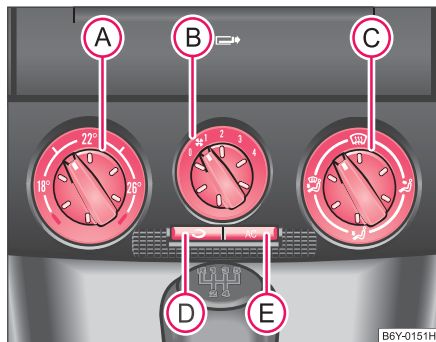
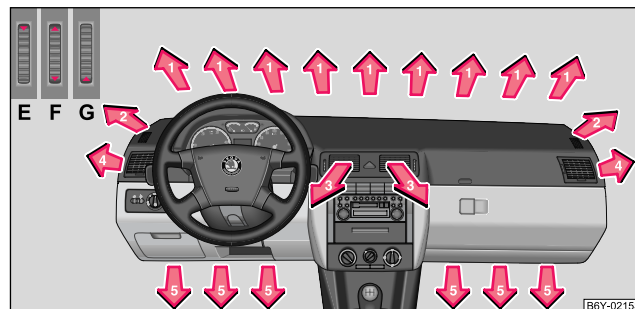

Fig. 80 The air conditioning system: Controls
Fig. 81 Air outlet vents
The air conditioning system operates when button  ⇒ page 91, fig. 80  is pressed and the following conditions are met:
- Turn the control dial **(A)** ⇒ **fig. 80** to the right in order to increase the temperature.
- Turn control dial (A) ⇒ page 91, fig. 80 to the right up to the stop
- Control dial (B) in the position 4
- Control dial (C) in the position
- Open air outlet vents 4 ⇒ page 93, fig. 81 and point towards the side window.
- Turn the control dial (A) ⇒ page 91, fig. 80 to the left up to the stop
- Control dial (B) into the desired position
- Open air outlet vents 3 and 4 ⇒ fig. 81
- Switch off the recirculated air mode by pressing button (D).
- Switch off the cooling by pressing button (E)
- Press button ⇒ page 91, fig. 80, the button symbol lights up.
Recirculated air mode is switched off automatically if the air distribution control (C) is in position ⇒ page 91, fig. 80. You can also switch recir-
Unwarmed or cooled air will flow out of the air outlet vents according to the setting of control dial (A) ⇒ page 91, fig. 80 and the atmospheric conditions. ►